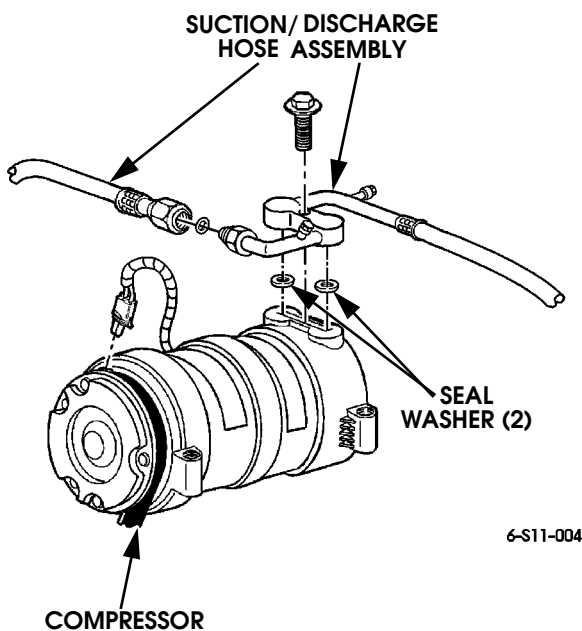

Figure 2-67: Suction/Discharge Hose Assembly Mounting
21. Disconnect suction/discharge hose assembly at compressor and at T-connector at passenger side of engine compartment next to receiver/dryer. Move hoses aside for working clearance and cap open ends to prevent dirt entry (Figure 2-67).
17. Remove protective tape from A/C suction/discharge hose adapter and connect it to compressor. Install new seal washers if old ones are worn or cut (Figure 2-67).